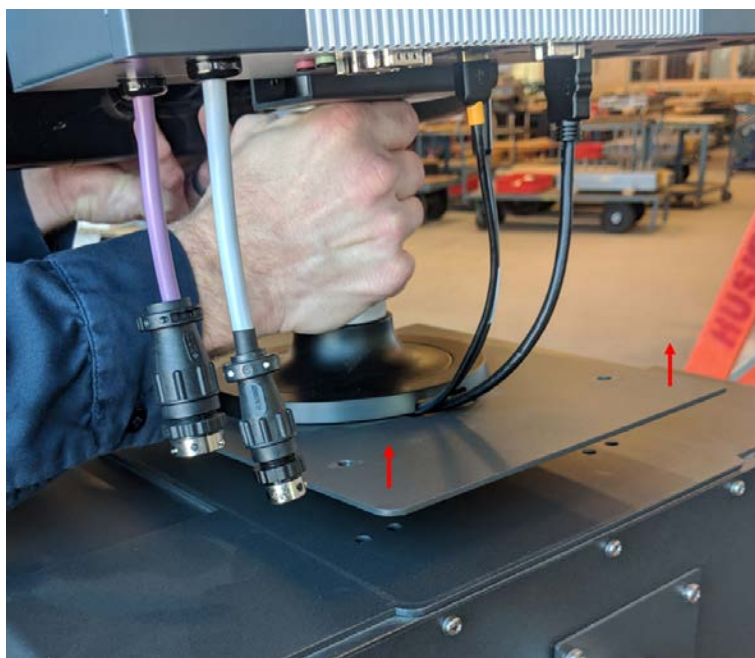

Figure 15-23 Remove the Operator Interface
5. Securely hold the operator interface at the silver mounting pole and carefully lift the unit from the top of the mainframe. Refer to Figure 15-23.